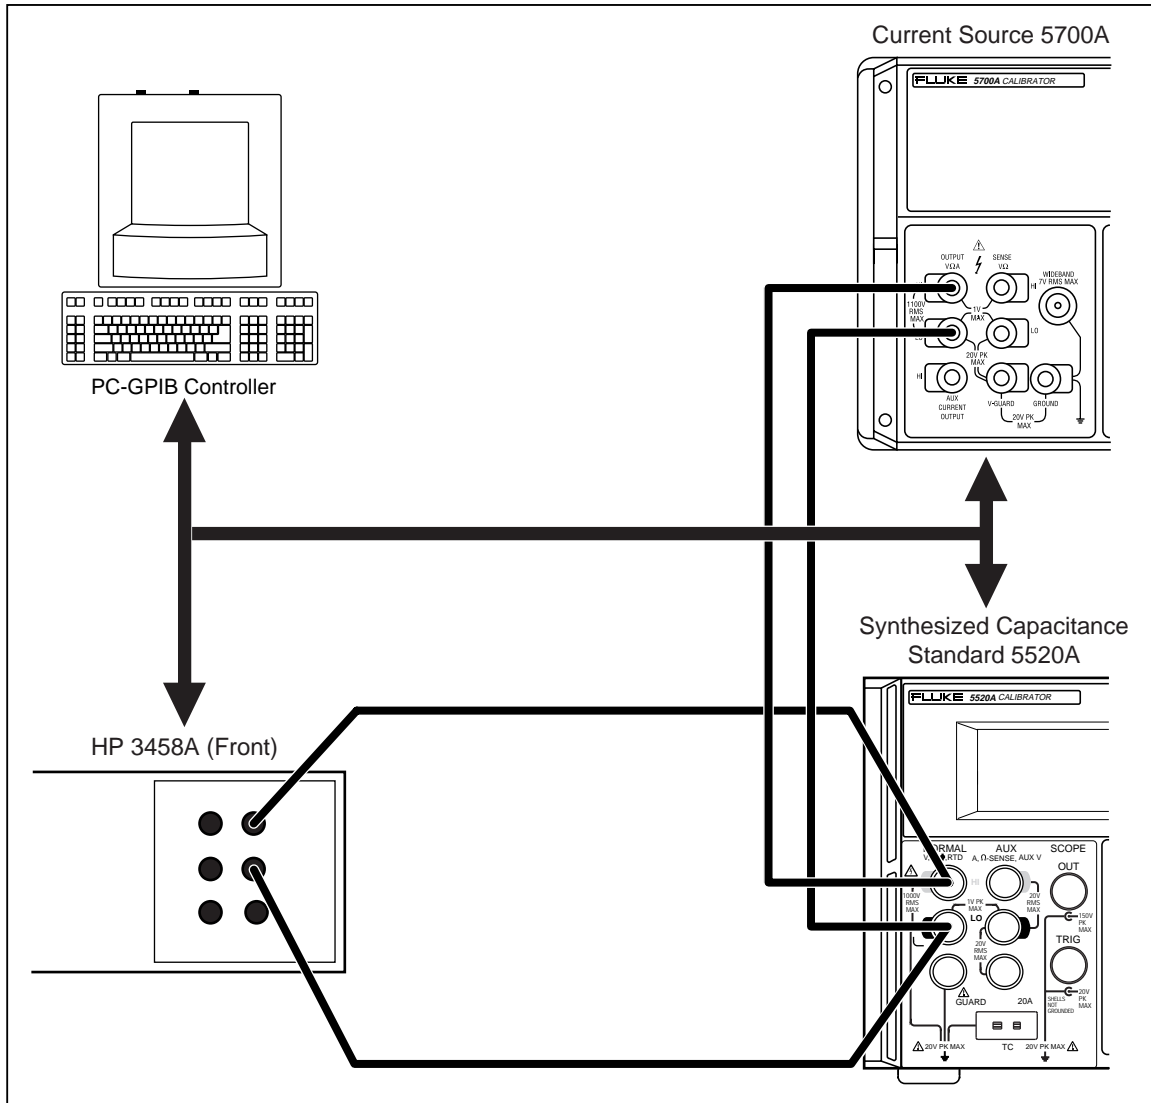

Figure 3-18. High Value Capacitance Measurement Set-up
1. Connect the Fluke 5700A, 5520A, HP 3458A DMM and computer as shown in Figure 3-18 below. See Table 3-29 for the equipment required.